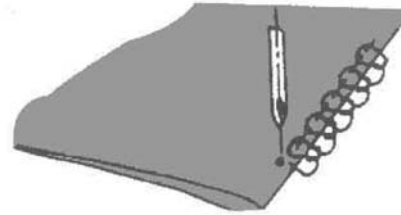

Fig. 93
- Place the textile so that a portion of the stitch is sewn outside of the textile (Fig. 93).